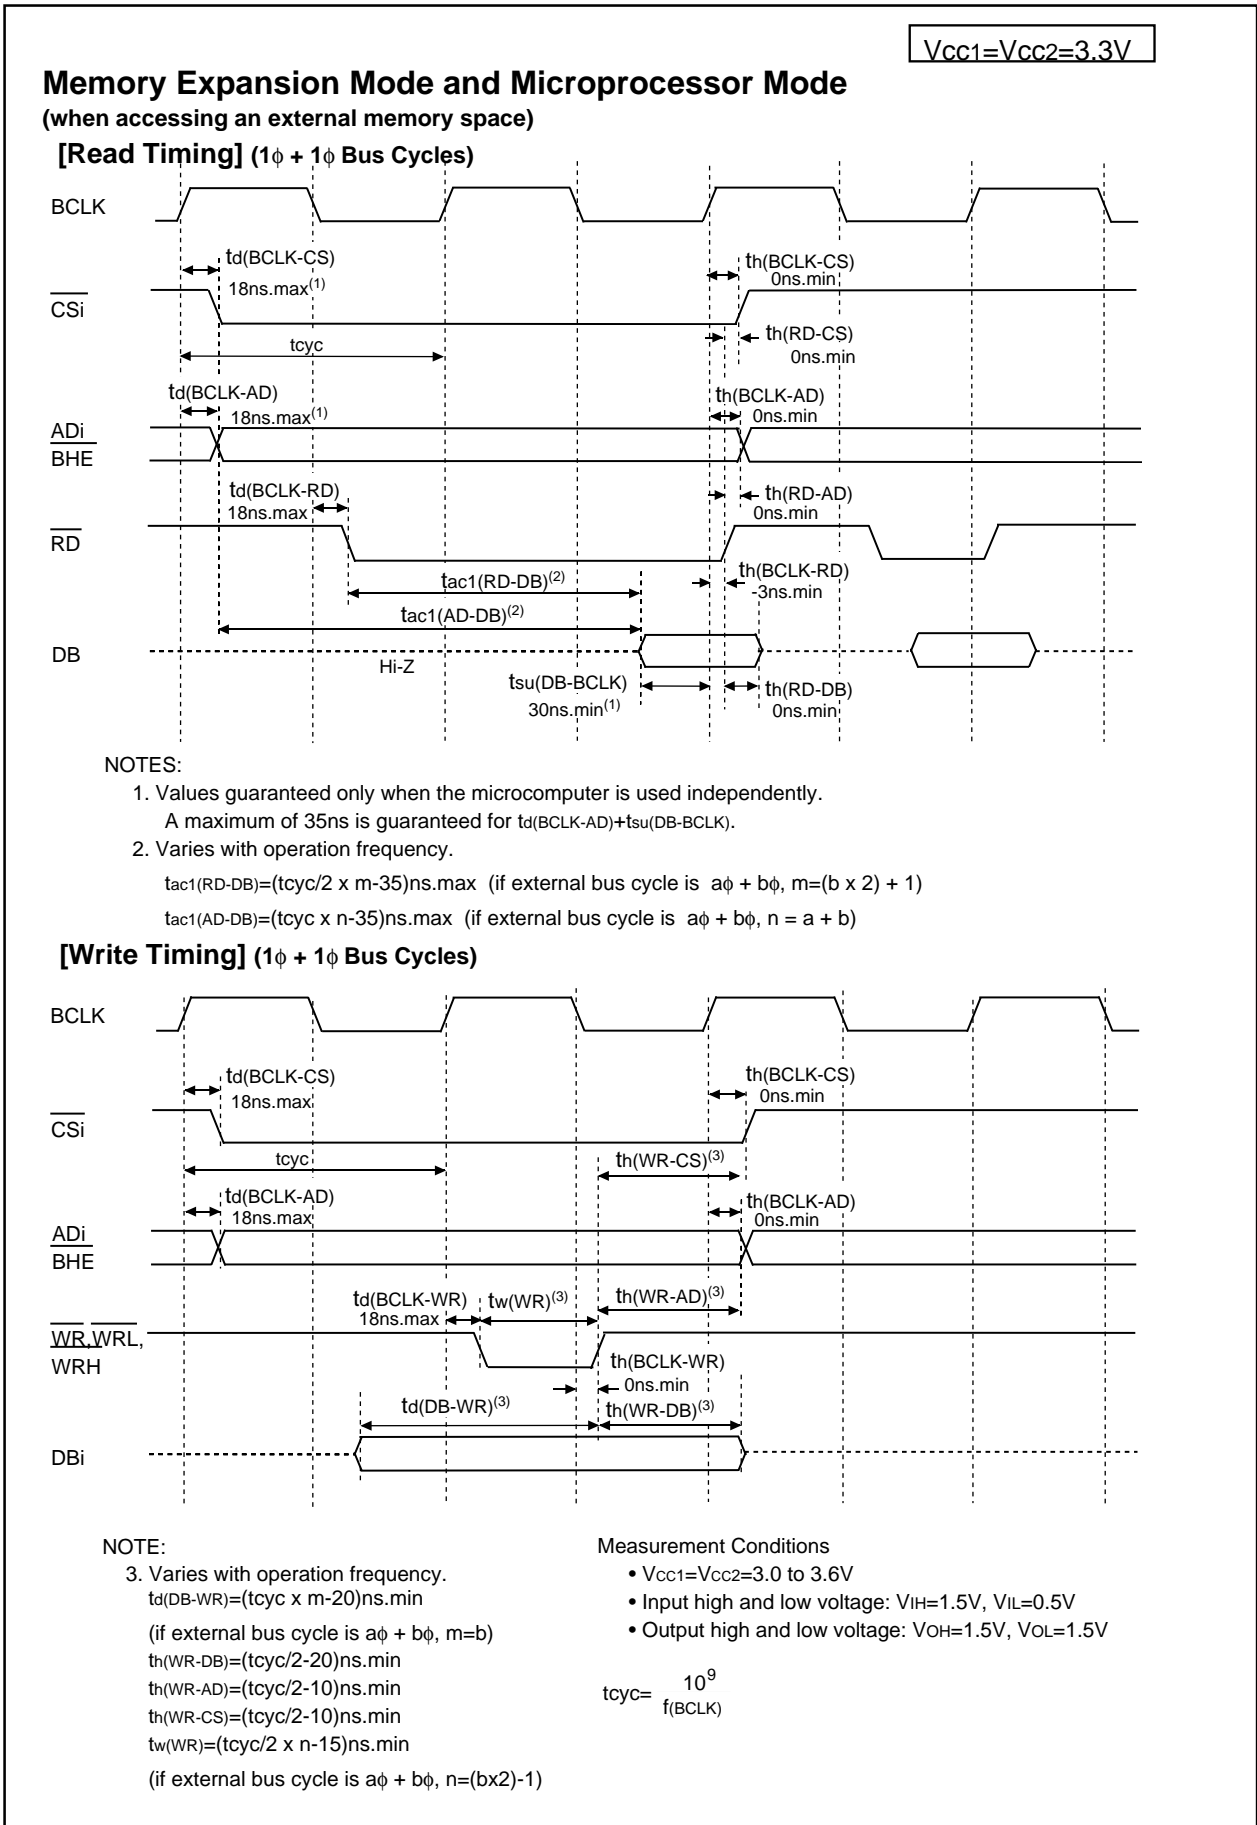

Figure 5.6 V_{CC1}=V_{CC2}=3.3V Timing Diagram (1)
52	• Figure 5.6 VCC1=VCC2=3.3V Timing Diagram (1) Expression for tcyc added; note 3 corrected